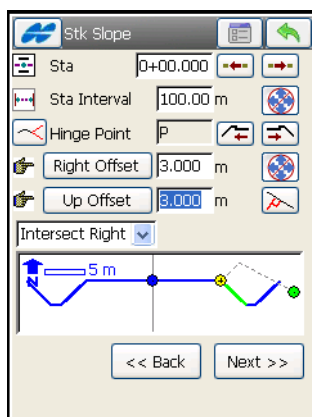

Figure 9-44. Stakeout Slope
3. On the next *Stk Slope* screen (Figure 9-44), set: